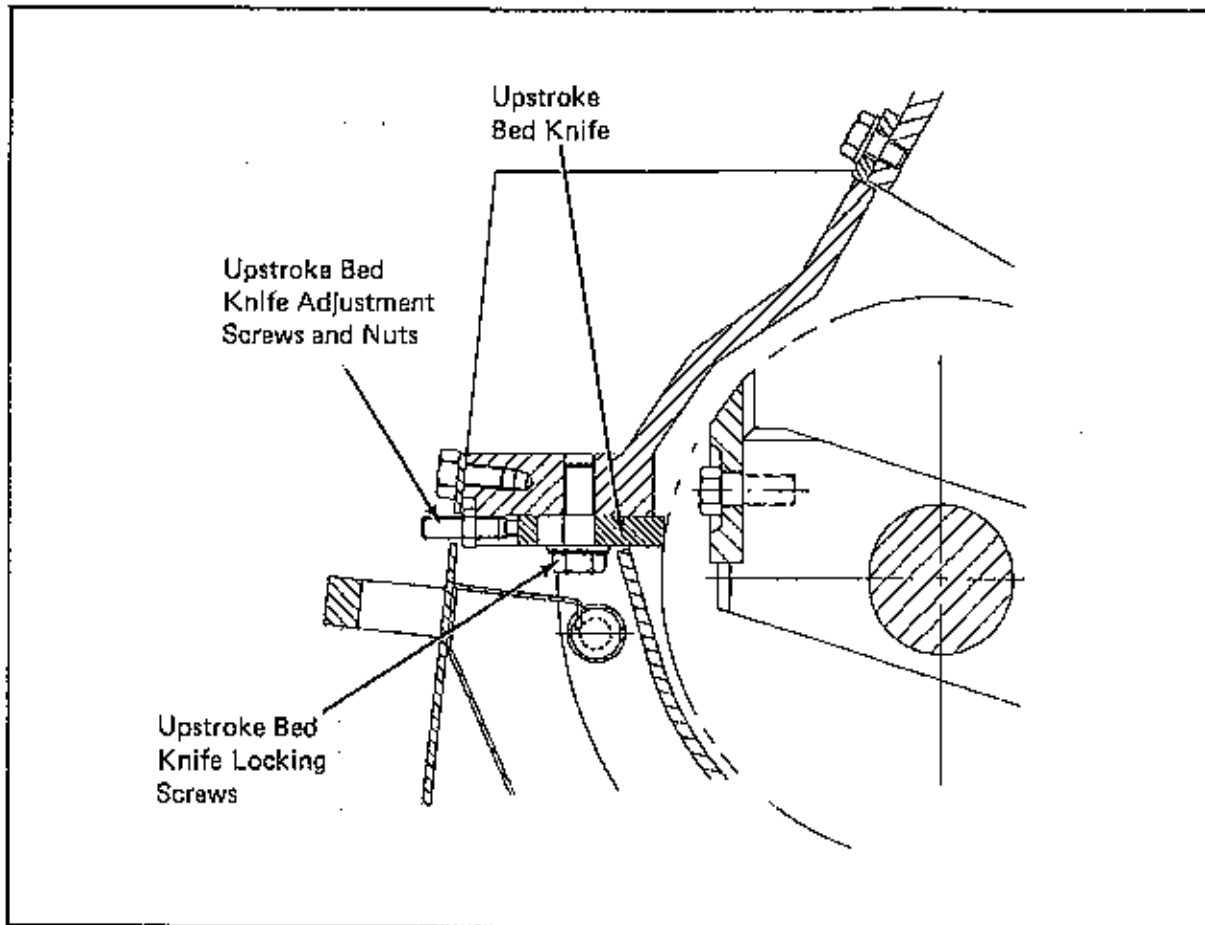

Figure 3-4. Upstroke Bed Knife Settings and Adjustments
B. UPSTROKE BED KNIFE (See Figure 3-4)